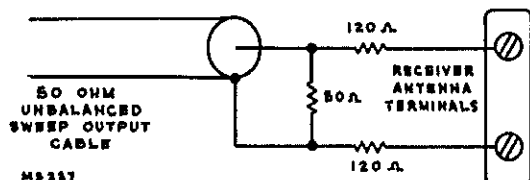

Figure 30—Method of Terminating Sweep Generator
**R-F AND CONVERTER LINE ADJUSTMENT**—Connect the r-f sweep oscillator to the receiver antenna terminals. If the sweep oscillator has a 50 ohm single-ended output, balanced output can be obtained by properly terminating the sweep output cable and by connecting a 120 ohm non-inductive resistor in series between the sweep output cable and each receiver antenna terminal. (See Figure 30.) Connect
NOTE 2: If sweep generator has "single ended" output, it will be necessary to disconnect the transmission-line jumper from the terminals adjacent to the r-f tube (V1). Feed the sweep signal in from either terminal to ground. The signal generator marker signal may then be fed into the unused terminal through a 5.6 mmf capacitor. An alternate method for connecting a "single-ended" sweep generator is to use the terminating arrangement shown in Figure 30, page 17.